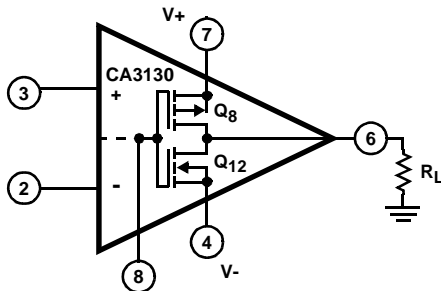
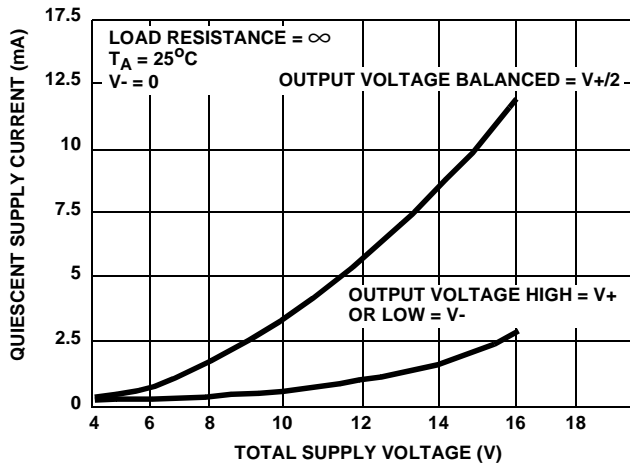

FIGURE 6A. DUAL POWER SUPPLY OPERATION
FIGURE 20. QUIESCENT SUPPLY CURRENT vs SUPPLY VOLTAGE
Because the CA3130 is very useful in single-supply applications, it is pertinent to review some considerations relating to power-supply current consumption under both single-and dual-supply service. Figures 6A and 6B show the CA3130 connected for both dual-and single-supply operation.
**Single-supply Operation:** Initially, let it be assumed that the value of  $R_L$  is very high (or disconnected), and that the input-terminal bias (Terminals 2 and 3) is such that the output terminal (No. 6) voltage is at  $V_+/2$ , i.e., the voltage drops across  $Q_8$  and  $Q_{12}$  are of equal magnitude. Figure 20 shows typical quiescent supply-current vs supply-voltage for the CA3130 operated under these conditions. Since the output stage is operating as a Class A amplifier, the supply-current will remain constant under dynamic operating conditions as long as the transistors are operated in the linear portion of their voltage-transfer characteristics (see Figure 2). If either  $Q_8$  or  $Q_{12}$  are swung out of their linear regions toward cut-off (a non-linear region), there will be a corresponding reduction in supply-current. In the extreme case, e.g., with Terminal 8 swung down to ground potential (or tied to ground), NMOS transistor  $Q_{12}$  is completely cut off and the supply-current to series-connected transistors  $Q_8$ ,  $Q_{12}$  goes essentially to zero. The two preceding stages in the CA3130, however, continue to draw modest supply-current (see the lower curve in Figure 20) even though the output stage is strobed off. Figure 6A shows a dual-supply arrangement for the output stage that can also be strobed off, assuming  $R_L = \infty$  by pulling the potential of Terminal 8 down to that of Terminal 4.